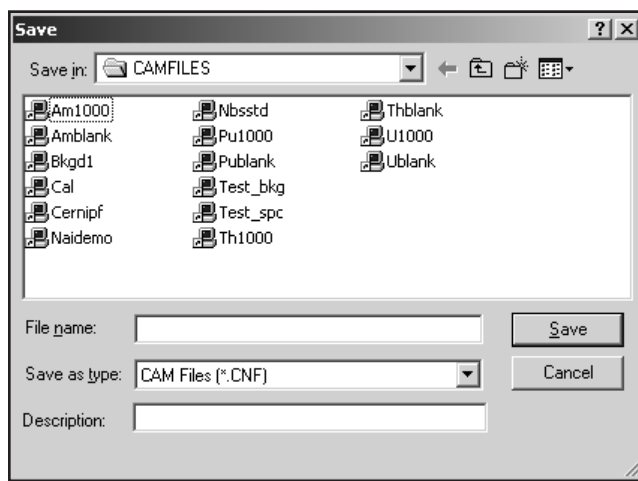

Figure 21 The Save As Dialog
- If there is no existing file, you'll see the "Save as" dialog box shown in Figure 21, which lets you save to a new file name
- Select the menu's **File | Save as** command. You'll see the "Save as" dialog box (Figure 21).